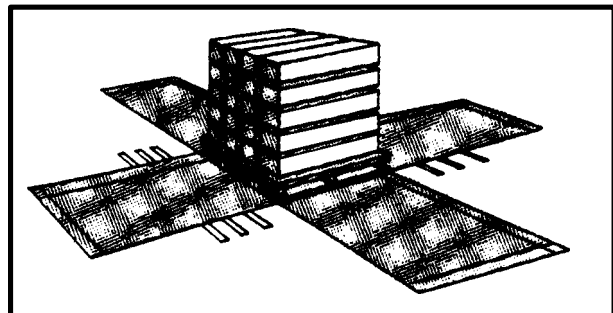

Figure 8-2. Centered Load
and Figures 8-2 through 8-6 explain how to rig an A-22 cargo bag:
**c. Positioning the Load.** Center the load on the canvas/nylon cover (Figure 8-2). Place the load so that any sharp corners or protrusions are toward the center of the bag.